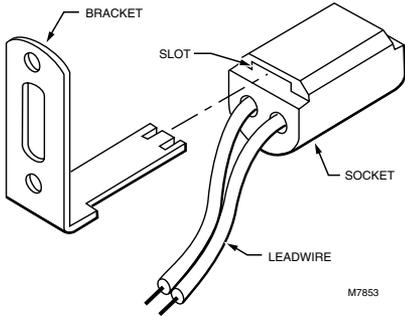

Fig. 3. Insert mounting bracket into socket slot.
- ❶ Remove the cell from the socket.
- ❷ Insert the mounting bracket into the socket slot (Fig. 3) as far as it will go.
- 2 Insert the mounting bracket into the slot on the socket (Fig. 3) as far as it will go.